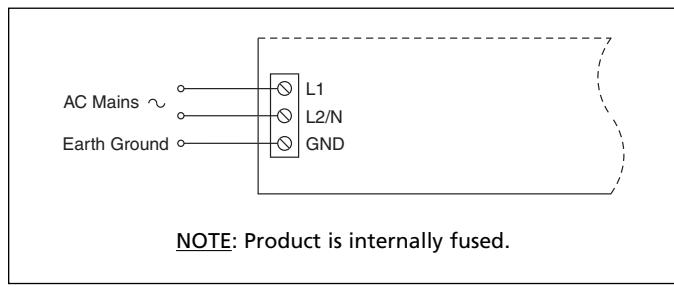

Figure 19-2 — AC mains connections
**Input Voltage Connections.** Connect the line voltage to L1 (hot) and L2N (neutral). Use #14AWG input wire. Recommended connector screw torque is 5 to 7 in-lbs (0.5 to 0.8 N-m). Recommended strip length is 8 mm. Refer to Figure 19-2.